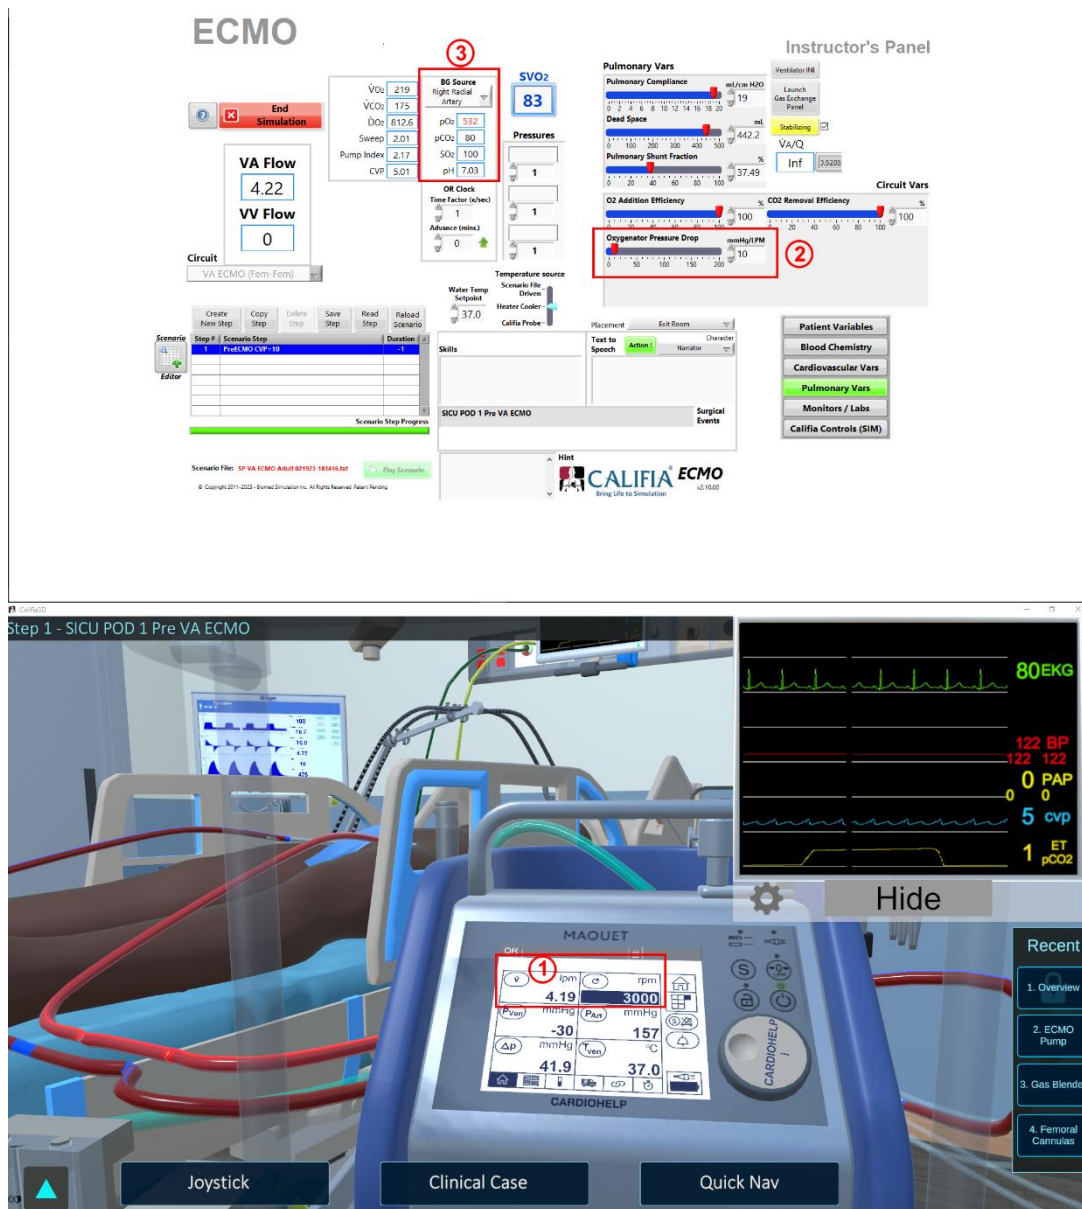

Figure 6.18 High flow at high RPM
Referring to Figure 6.18, increase **RPM** to 3000, ①. Also, set the **Oxygenator Pressure Drop** to 10 mmHg/LPM, ②.